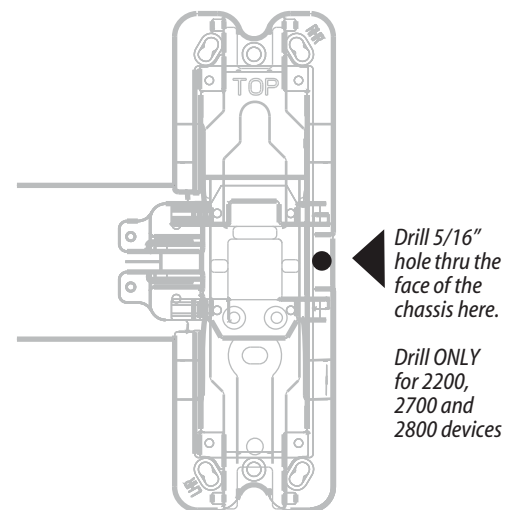

Figure 22 Drilling 5/16" hole for BEST Precision 2200, 2700, and 2800 exit devices only
- Drill a 5/16" hole through the front part of the chassis as shown in Figure 22. (This hole is used to pass the sensor harness and door position switch wires into the chassis area.)